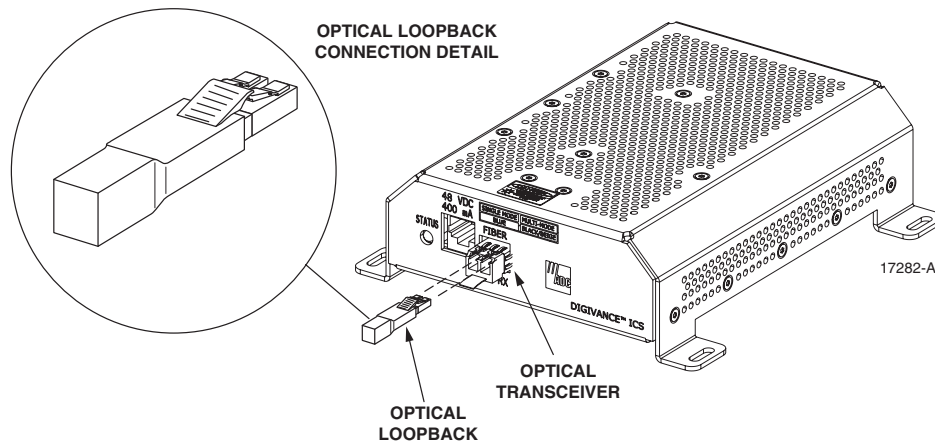

Figure 28. DRU Loopback Test
19. Plug the loopback into the DRU optical port or DEU host port as shown in Figure 28.